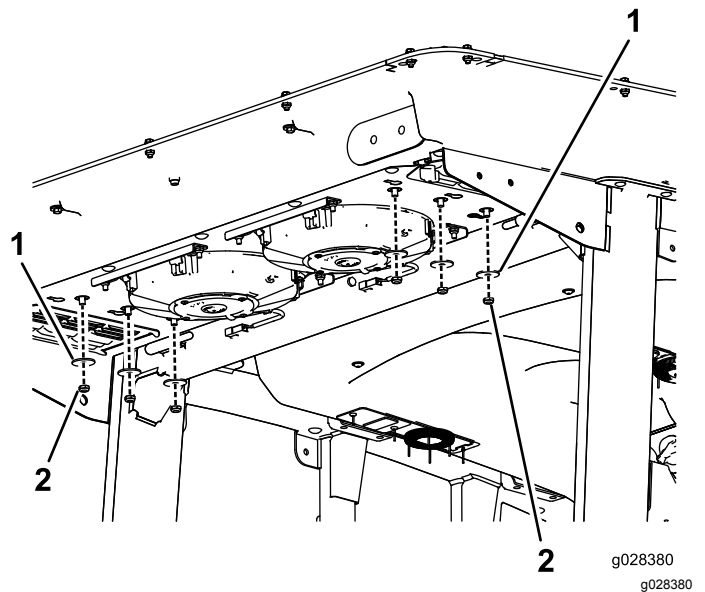

Figure 124
2. Remove the 6 nuts and washers from the bottom of the rear of the cab (Figure 124).